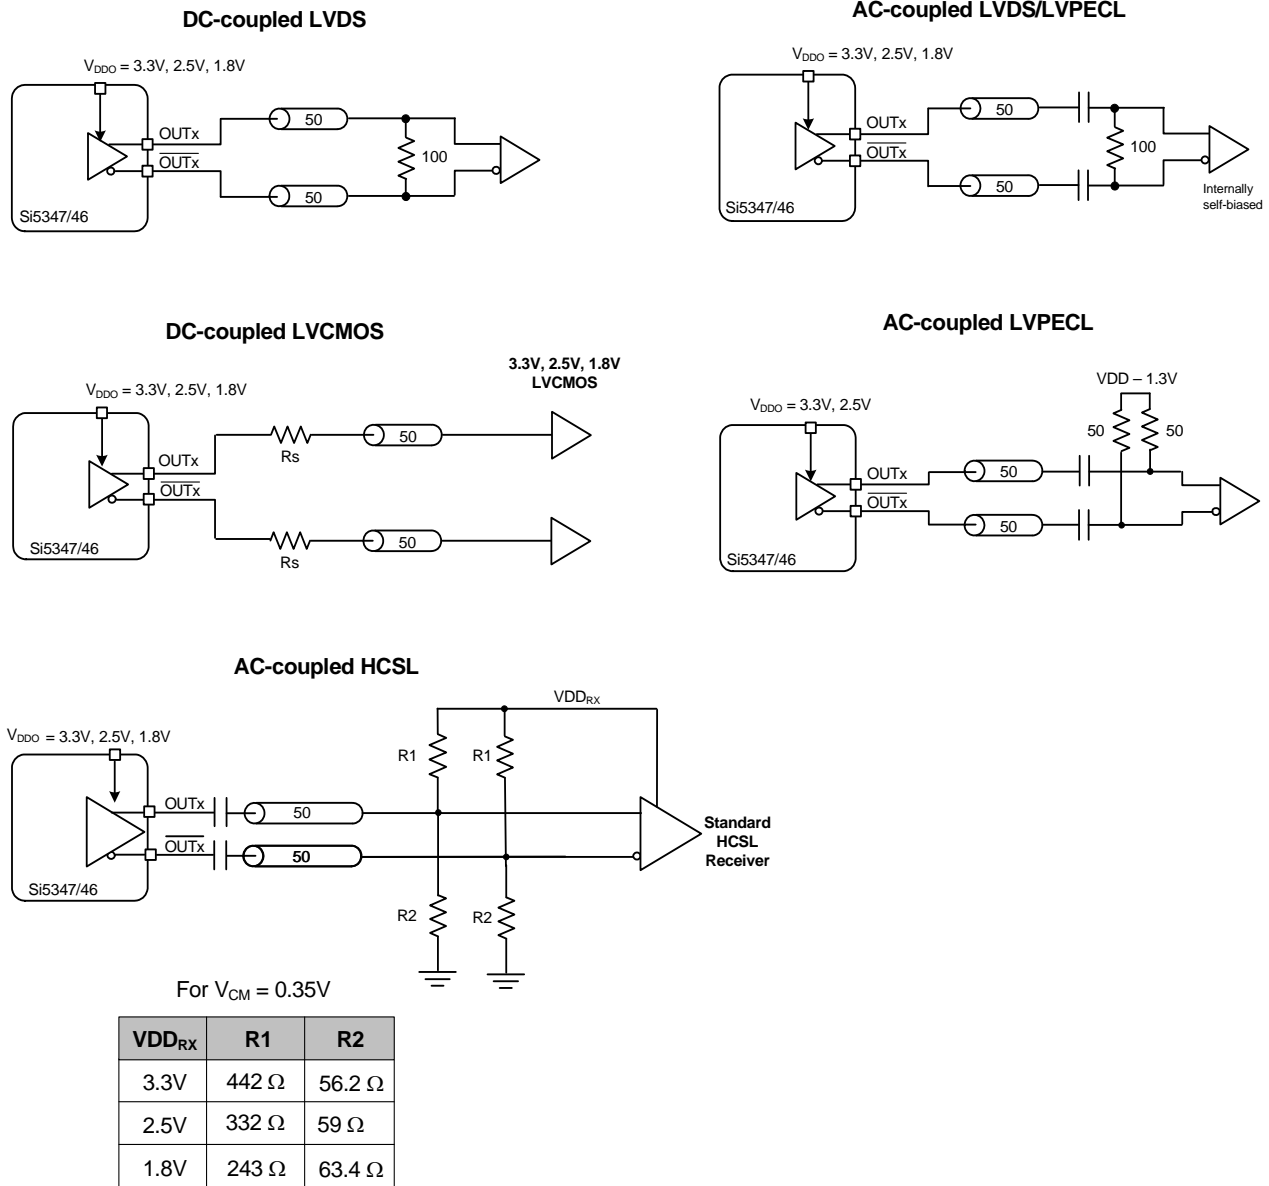

Figure 25. Supported Differential Output Terminations
The differential output drivers support both ac-coupled and dc-coupled terminations as shown in Figure 25.
- Differential Normal Mode:** When an output driver is configured in normal amplitude mode, its output amplitude is selectable as one of 8 settings ranging from 130 mVpp_{se} to 920 mVpp_{se} in increments of 100 mV. The output impedance in the normal mode is 100 Ω differential. Any of the ac-coupled terminations shown in Figure 25 are supported in this mode.
- Differential Low Power Mode:** When an output driver is configured in low power mode, its output amplitude is configurable as one of 8 settings ranging from 200 mVpp_{se} to 1600 mVpp_{se} in increments of 200 mV. The output driver is in high impedance mode and supports standard 50 Ω PCB traces. Any of the ac-coupling terminations shown in Figure 25 are supported in this mode.